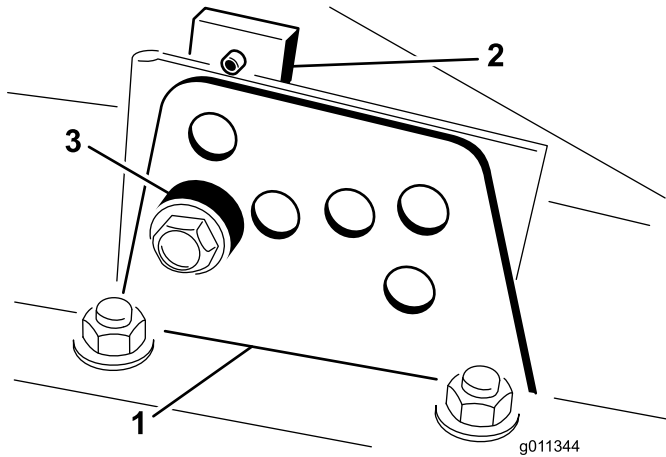

Figure 16
2. Loosen the bolt securing each height-of-cut bracket to the height-of-cut plate (front and each side) (Figure 16).